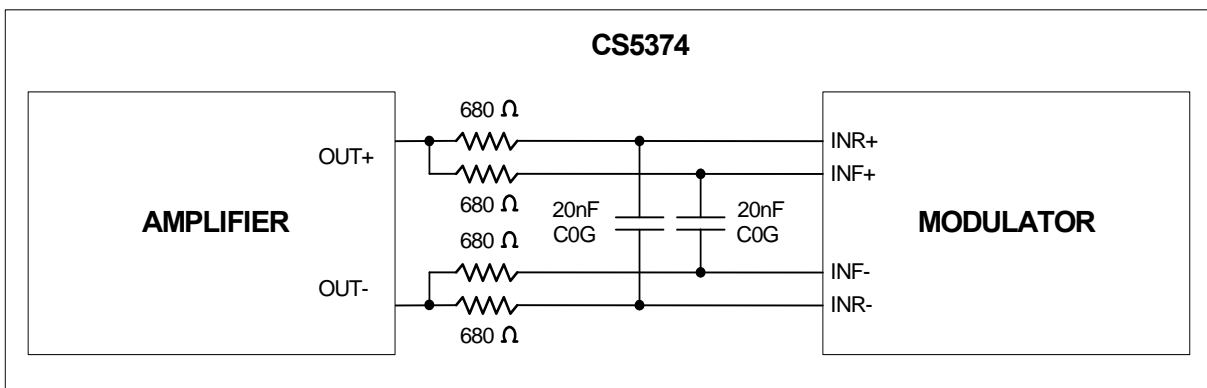

Figure 1. External Anti-alias Filter Components
10. Anti-alias capacitors are discrete external components and must be of good quality (COG, NPO, poly). Poor-quality capacitors will degrade total harmonic distortion (THD) performance. See Figure 1 for external anti-alias filter connections.